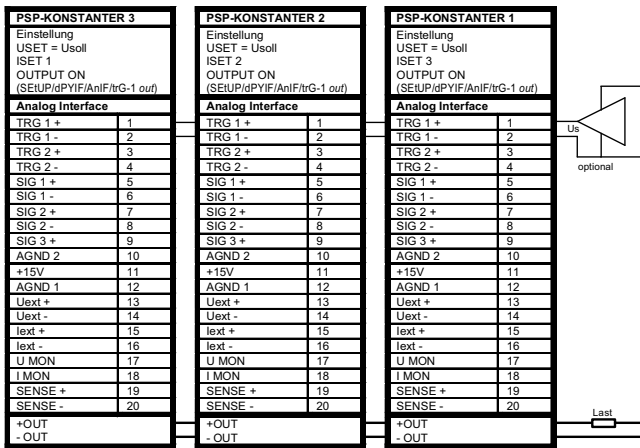

Figure 7.9.1a Wiring for Direct Parallel Connection
- The outputs can be activated and deactivated collectively by connecting the trigger inputs in parallel (see figure 7.9.1a, optional connection) or series (setting: "SETUP/dPYIF/AnIF/trG-1 out").